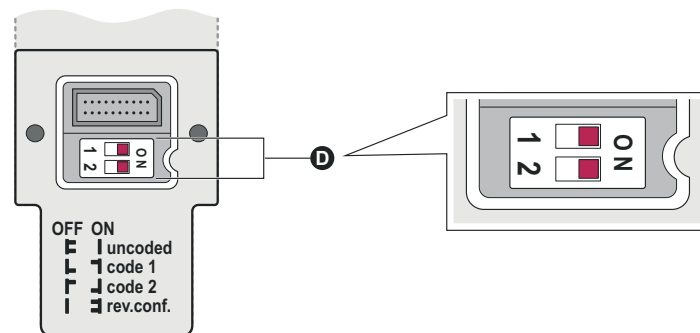

Figure 72: Reset to factory settings
3. To reset the device to factory settings, set DIP switches 1 and 2 (row D) to ON, see figure 72.